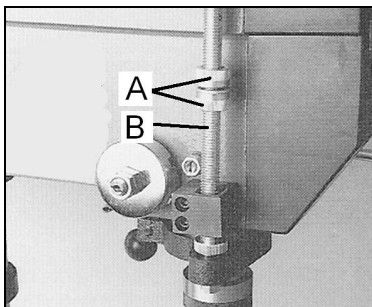

Fig 9
With your other hand, advance the lock nuts (A, Fig 9) on the depth stop (B) until they touch the stop bracket.